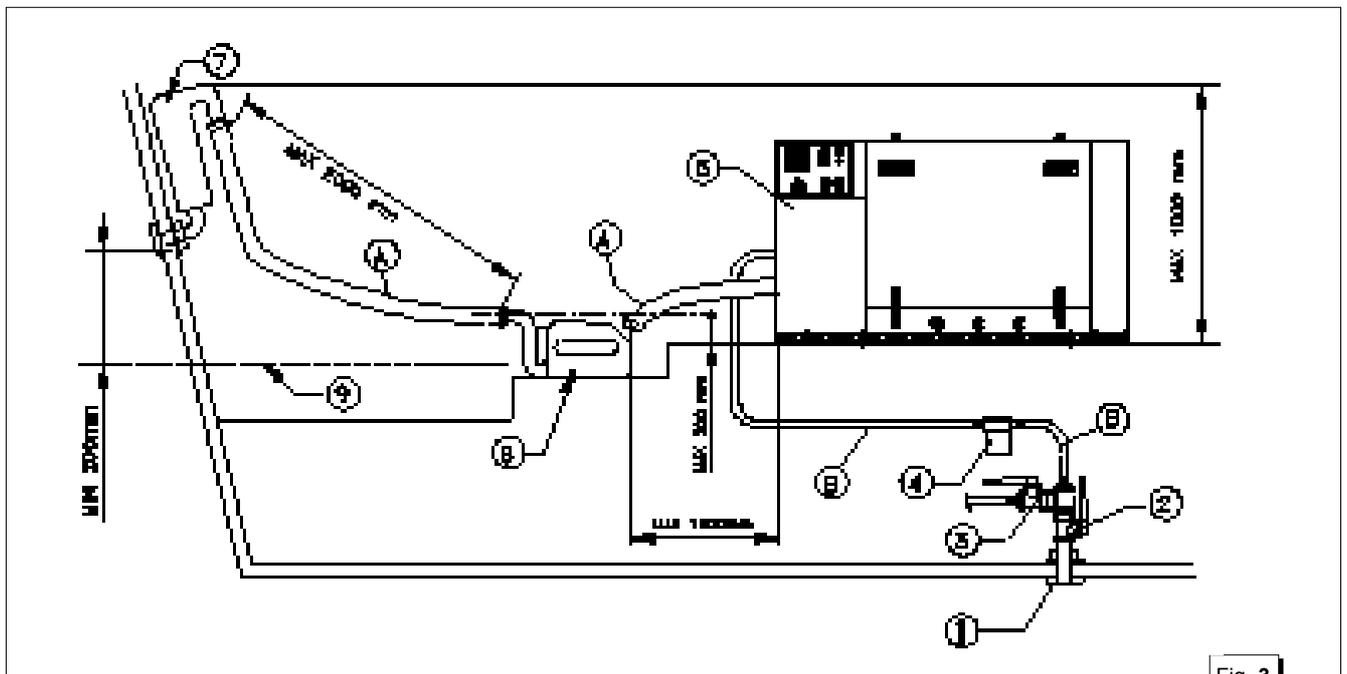

Fig. 3
2.2 Standard installation of the generator above the waterline (fig. 3)